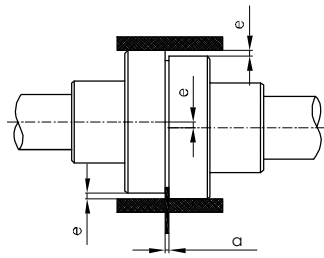

Fig. 3. Aligning a flexible coupling
• To control parallel sliding error, straight edged steel ruler is pressed down on one half of the coupling in parallel to the axis. It is checked against the other half. Straight edge must touch to the both half couplings completely same at all points in each vertical and horizontal planes (Fig. 3).